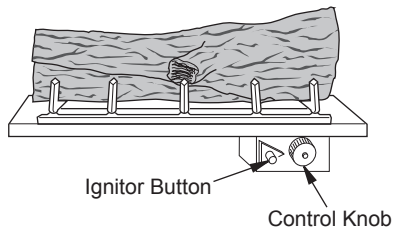
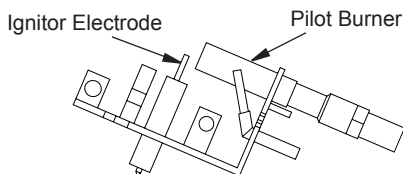

Figure 26 - Control Knob and Ignitor Button Location
Figure 27 - Pilot
3. Turn control knob clockwise ↻ to the OFF position (see Figure 27).
4. Wait five (5) minutes to clear out any gas. Then smell for gas, including near the floor. If you smell gas, **STOP!** Follow "B" in the safety information, column 1. If you don't smell gas, go to the next step.
5. Turn control knob counterclockwise ↺ to the PILOT position. Press in control knob for five (5) seconds (see Figure 26).